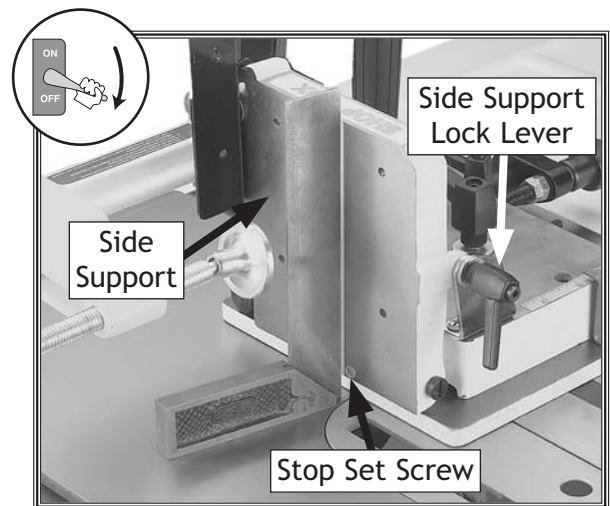

Figure 12. Using a machinist's square to adjust the side support to 90°.
4. Thread the positive stop set screw far enough away from the side support so that it will not interfere with the next step (see **Figure 12**).
5. Position a machinist's square flat on the table and up against the jig side support, as shown in **Figure 12**.